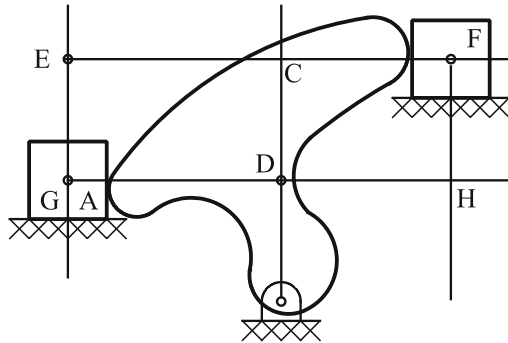

Fig. 2.60 Two sliding motions in two sides
24. What are the two points of the instantaneous centers of the non-primary rotation (other than 12, 13, and 14) in the mechanism of Fig. 2.60?